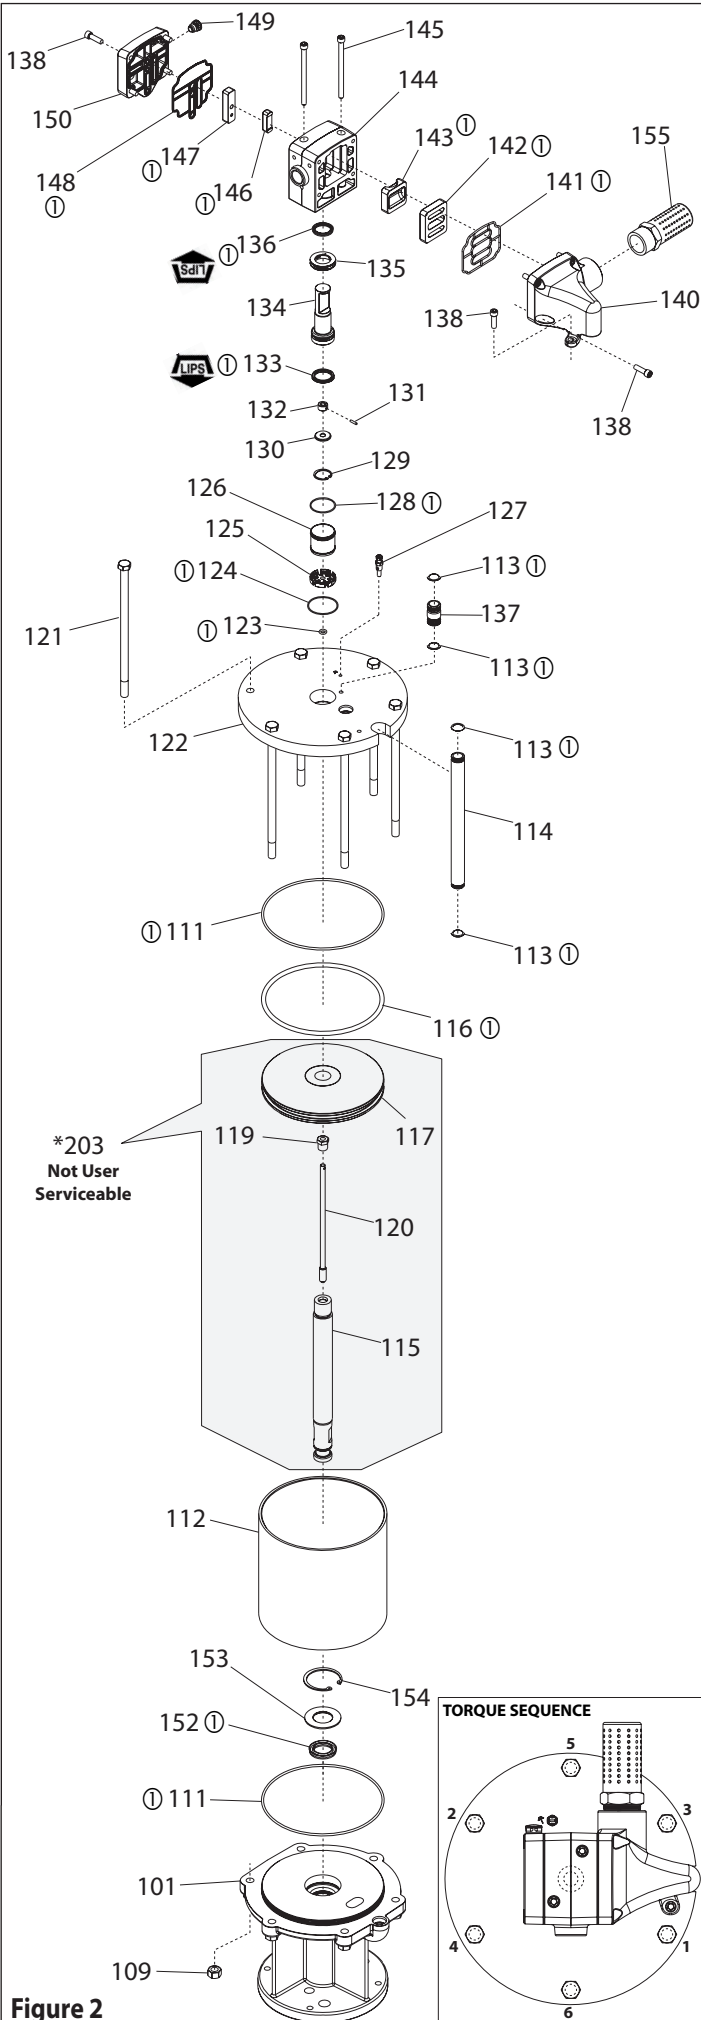

Figure 2
2. Install (152) U-cup, (153) washer, and (154) snap ring into the (101) base assembly.
3. Install the (111) O-ring in the groove on the (101) base assembly.
4. Install the (116) O-ring in the groove on the (117) piston.
5. Push (115) piston rod thru the (101) base assembly, being careful not to damage the lips of the (152) U-cup or the (102) O-ring.
6. Lubricate the inside diameter of the (112) air cylinder and slide it down over the (117) piston/assembly and onto the (101) air motor base assembly (see figure 2 on page 2).
7. Align notch in (122) head plate with the port in (101) base assembly and press the (122) head plate down until it is seated against the (112) air cylinder. The (120) trip rod assembly must lead thru the center of the (122) head plate.
21. Install the (146) pilot insert, with pocket facing outward, thru the (144) valve housing and into the (134) spool. The (134) spool may need to be turned to orient its' shallower slot to face the smaller pocket of the (144) valve housing.
22. Install the (147) pilot valve plate, with identification dimple facing outward, into the (144) valve housing covering the (146) pilot insert.
23. Install the (148) pilot gasket into the (150) pilot cover and assemble to the (144) valve block using four (138) socket head screws. Tighten to torque specifications.
24. Install the (143) D-valve, with pocket facing outward, thru the (144) valve housing and into the (134) spool.
25. Install the (142) major valve plate, with identification dimple facing outward, into the (144) valve housing covering the (143) D-valve.
26. Install the four (113) O-rings onto both (114 & 137) tubes.
27. Loosely install the (137) tube into the bore in the (122) head plate.